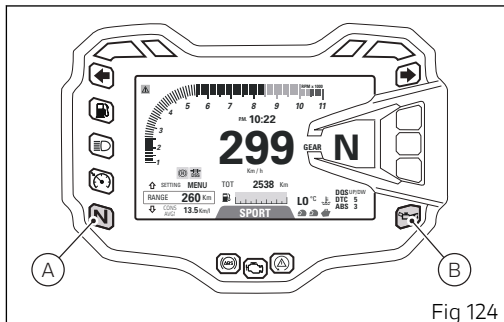

Fig 124
The red oil pressure warning light (B, Fig 124) should go out a few seconds after the engine has started. The engine will shut off by turning the red button (1) on the handlebar to RUN OFF. To turn on the "Hands free" system and all electronic onboard systems, refer to chapter "Hands Free System".